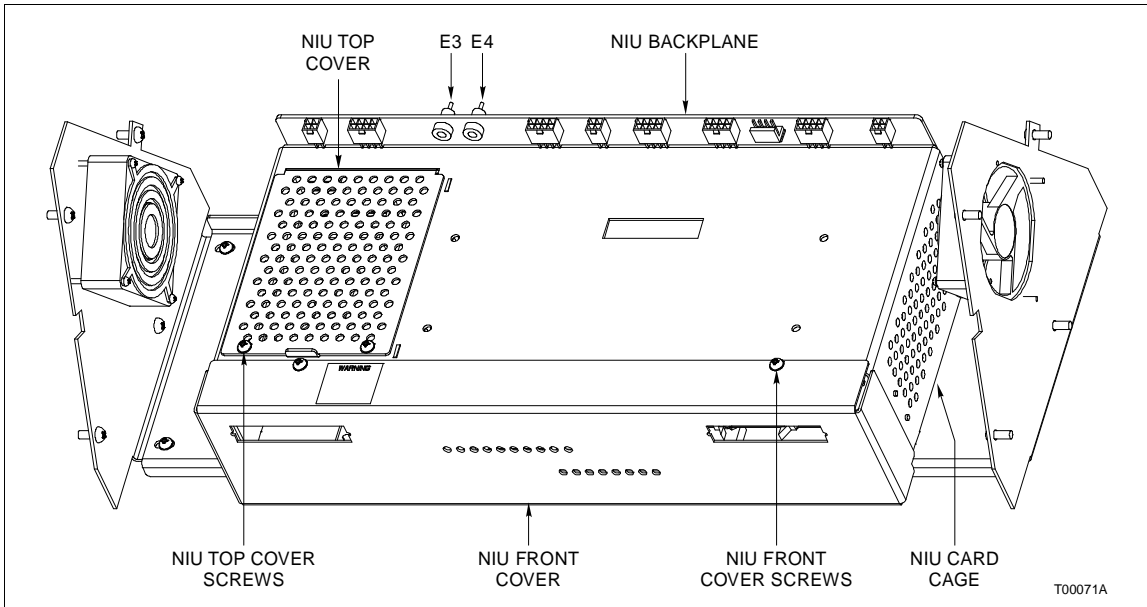

Figure PR62-1. NIU Card Cage with Covers Installed
3. Use the Phillips head screwdriver to remove the two NIU front cover screws (Fig. PR62-1).